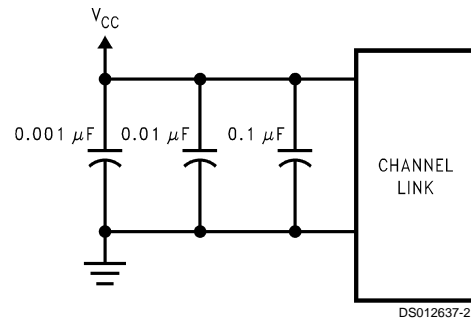

FIGURE 19. CHANNEL LINK Decoupling Configuration
**DECOUPLING CAPACITORS:** Bypassing capacitors are needed to reduce the impact of switching noise which could limit performance. For a conservative approach three parallel-connected decoupling capacitors (Multi-Layered Ceramic type in surface mount form factor) between each  $V_{CC}$  and the ground plane(s) are recommended. The three capacitor values are 0.1 μF, 0.01 μF and 0.001 μF. An example is shown in Figure 19. The designer should employ wide traces for power and ground and ensure each capacitor has its own via to the ground plane. If board space is limiting the number of bypass capacitors, the PLL  $V_{CC}$  should receive the most filtering/bypassing. Next would be the LVDS  $V_{CC}$  pins and finally the logic  $V_{CC}$  pins.